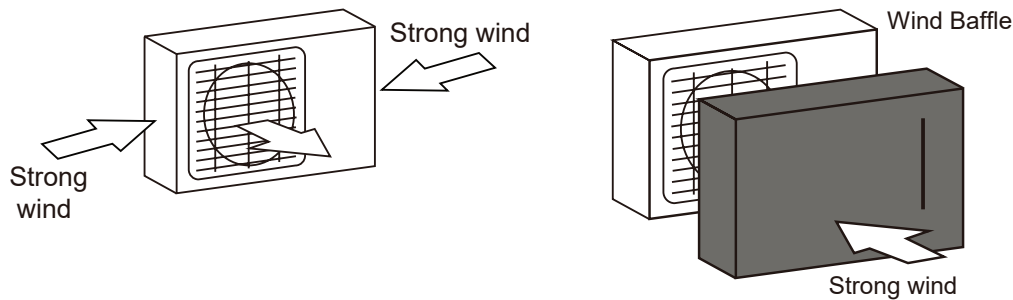

Figure 2.
- For installations prone or exposed to strong prevailing winds or breezes such as coastal areas, please ensure that the unit is sited appropriately, by placing it lengthwise along the wall to reduce any negative impact on the condenser fans. Refer to "Figure 2." on page 17.
Install unit so that air outlet fan is at a 90° angle to the direction of the wind. If needed, build a barrier in front of the unit to protect it from extremely heavy winds. Refer to Figure 2 below.